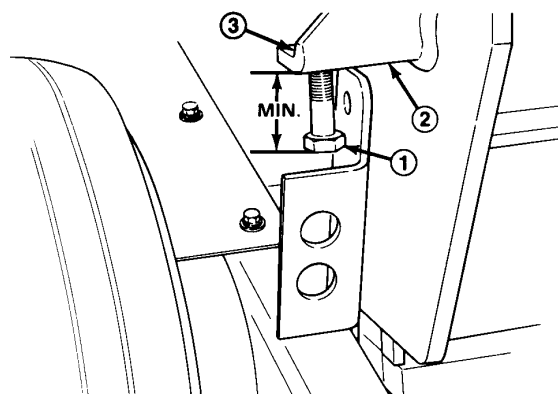

Figure 11
2. Loosen the jam nut on top of the adjusting bracket (Fig. 11).
3. Thread the adjusting screw into the bracket to increase coring depth. Thread it out to decrease depth (Fig. 11).
5. Best recommended coring depth is achieved when the distance from the end of the screw head to the bracket is  $1\frac{1}{16}$ " (Fig. 11).